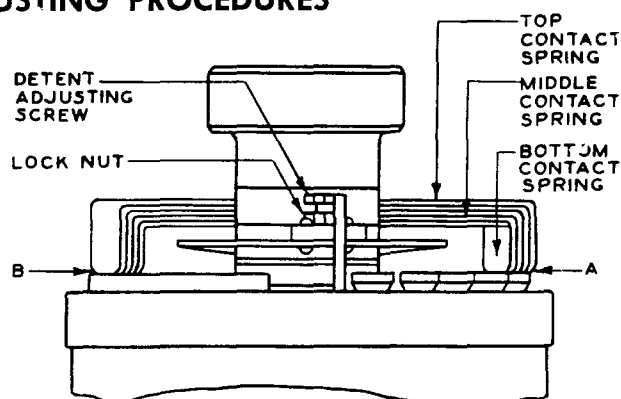

FIG. 1
(a) Fig. 1 (A) and (B) - The contact surfaces of the contact springs shall be parallel with the contact surfaces of the studs and collector ring segment. Gauge by eye.
2.03 Pressure of Contact Springs: Fig. 1 (A) and (B) - The pressure of each contact spring exerted on a contact stud or the collector ring, shall be within the limits shown in the following table. Use 79B gauge.